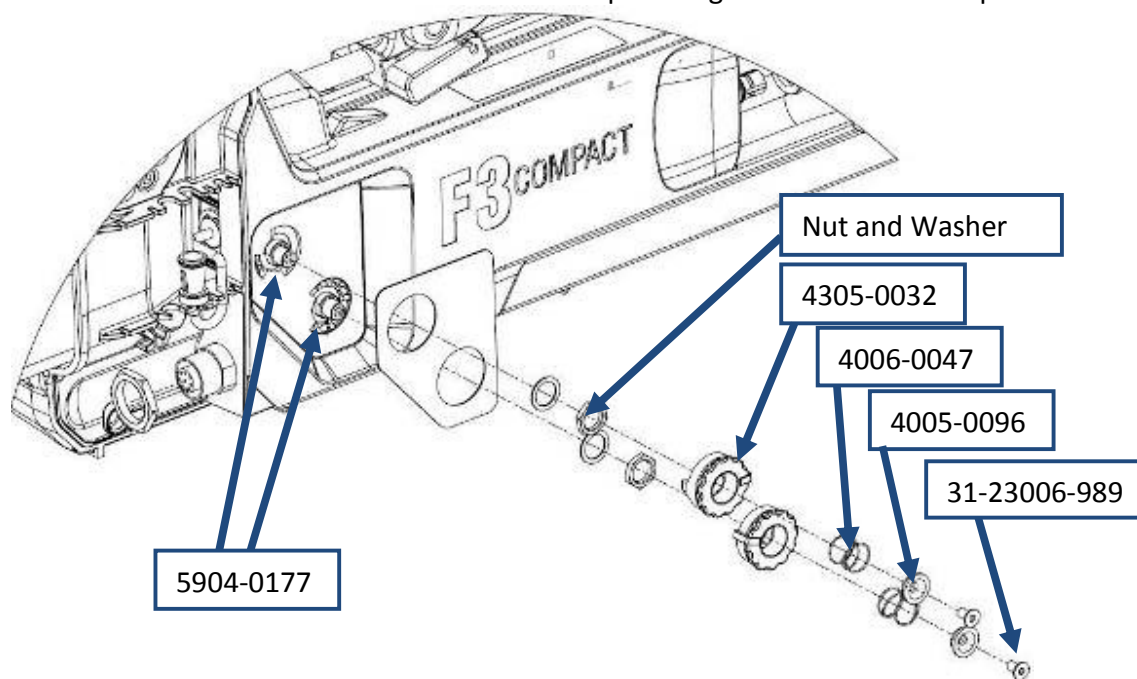

Figure 88: Switches Kit
a. The control switches are a line replaceable unit and are available as a service kit, 3004-0054 Switches Kit which includes all associated parts. Figure 88 illustrates all parts.